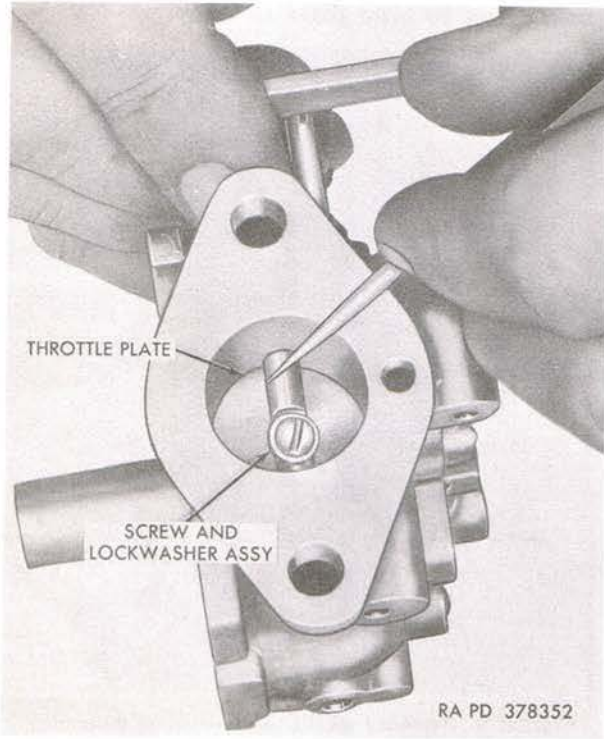

Figure 7. Scribing throttle plate—using a scribe.
c. *Remove Choke Shaft and Lever Assembly.* Remove shaft and lever assembly (L) from body. Remove screw (M) from end of lever.
a. *Remove Throttle Plate.* Hold the throttle shaft and lever (QQ) in the fully closed position and scribe a line across the throttle plate along the edge of the throttle shaft as shown in figure 7 to insure correct positioning of plate at assembly. Remove screw and lockwasher assembly (S) securing throttle plate (R) to throttle shaft and lever (QQ) and remove plate. Be careful not to bind plate in body (Q).